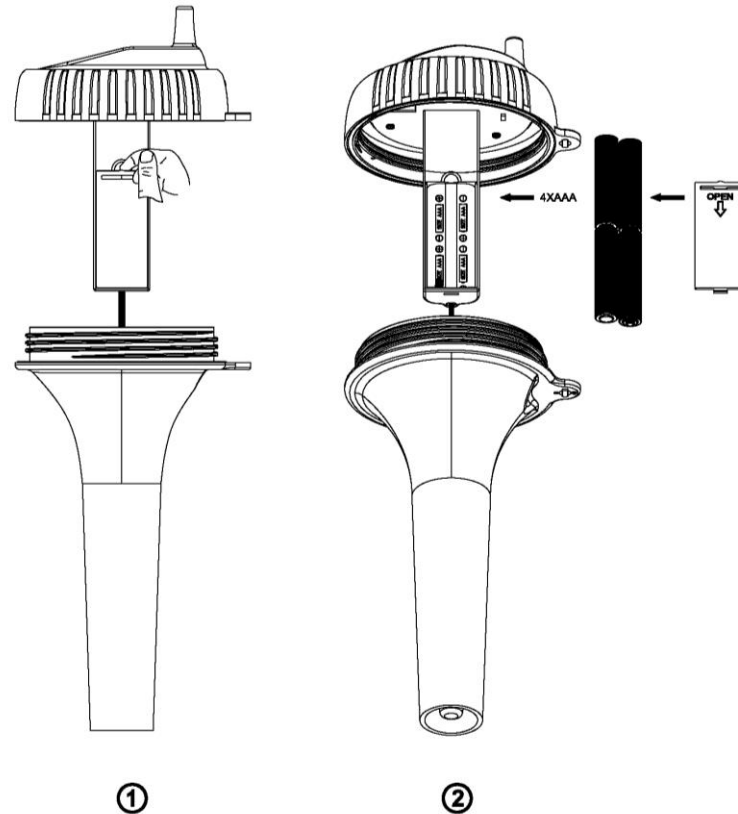

Figure 6
3. Reference Figure 6. Install 4 x AAA batteries.